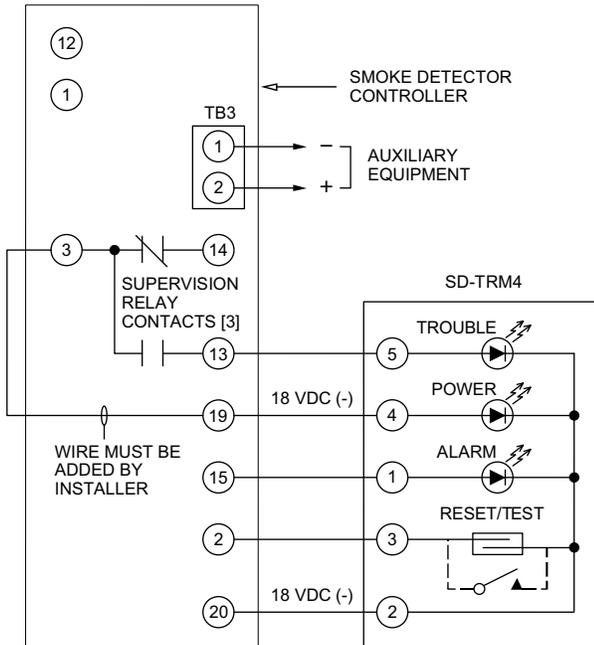

Fig. 47 — Remote Test/Reset Station Connections
The test/reset station dirty sensor test checks the test/reset station's ability to initiate a sensor dirty test and indicate the results. It must be wired to the controller as shown in Fig. 47 and configured to operate the controller's supervision relay. For more information, see "Dirty Sensor Test" on page 26.
1. Verify that the remote test/station is wired as shown in Fig. 47. Repair or replace loose or missing wiring.